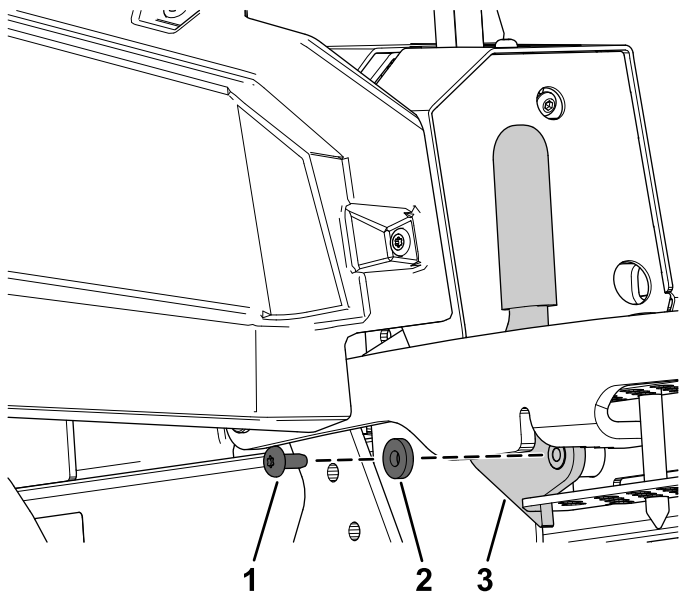

Figure 22
3. Remove the bolt, washer, and transport lock (Figure 22).